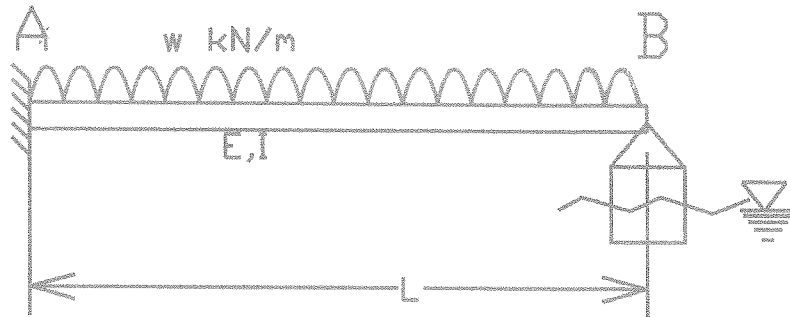

Fig. Q1
- Q1. a) Straight elastic beam AB of uniform cross section with constant flexural rigidity of EI deployed in a jetty is shown in the Fig Q1. Jetty beam is fixed at support A and floats on top of a cylindrical buoy radius R (in m) at point B as shown in Fig. Q1. Beam is expected to support a uniform distributed load of intensity w kN/m at critical conditions. Using three moment theorem, calculate the reaction at the floating support B. Ignore the self-weight of the beam AB and the self-weight of the float (Buoy). Consider float is at same level of the fixed support when the beam is in unloaded conditions. The buoyancy force of the float (uplift force acting on the structure due to water pressure) for 1 m length of immersion shall be taken as k ($=\pi R^2 \rho g$). Assume that the water level remain constant along the section of the water way where the jetty is constructed.